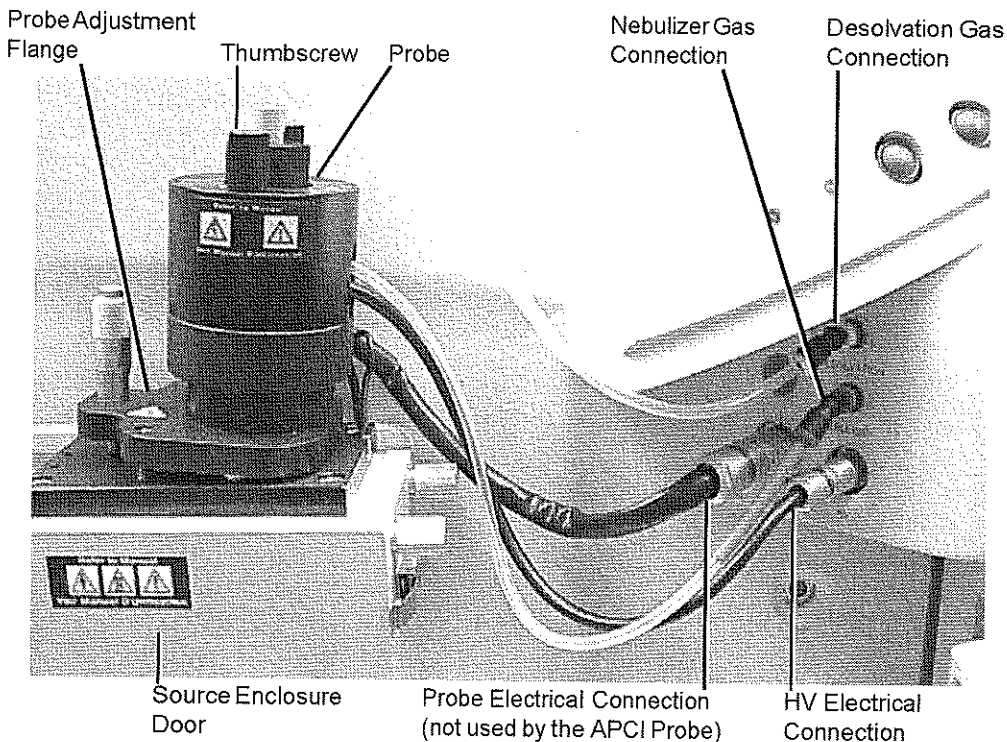

Figure 7-5 Probe Connections (ESI Probe Shown as an Example)
6. Disconnect the electrical connection(s) at the instrument front panel (Figure 7-5).
1. Unfasten the source enclosure door's securing clips and open the door (see Figure 7-5).
2. Disconnect the Probe electrical connection at the instrument front panel (see Figure 7-5).
3. Disconnect the PTFE tubing at the Desolvation gas connection on the front panel (see Figure 7-5).